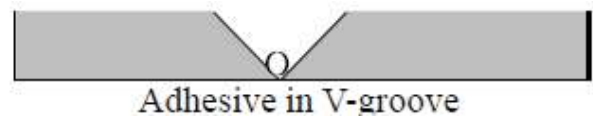

Figure O-2
3. Apply a 1/8" (3-mm) bead of adhesive in the very bottom of the groove (see Figure O-2). Wait 30 seconds to 1 minute for any trapped air to escape.